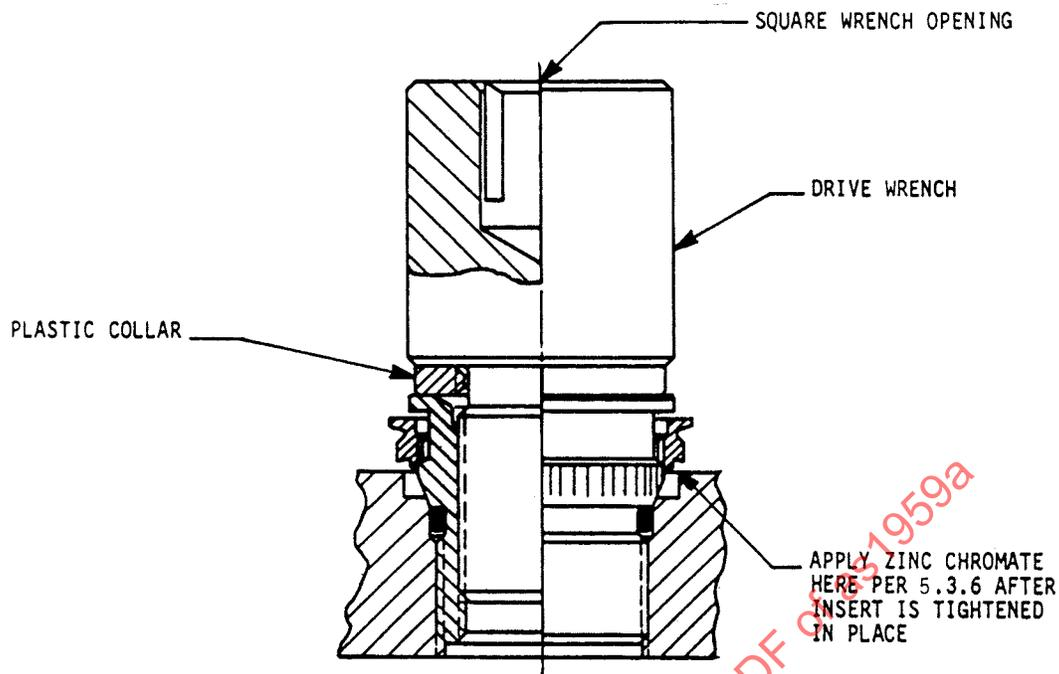

FIGURE 3
- 5.3.2 Screw the drive wrench into the thread of the insert until the plastic collar touches the surface of the insert (see Fig. 3).
- 5.3.3 Screw the insert assembly into the port by hand using a clockwise rotation until the assembly is firmly set (see Fig. 3). To avoid possible O-ring damage, the insert should not be rotated in a counterclockwise direction. If this has been done, replace the O-ring.